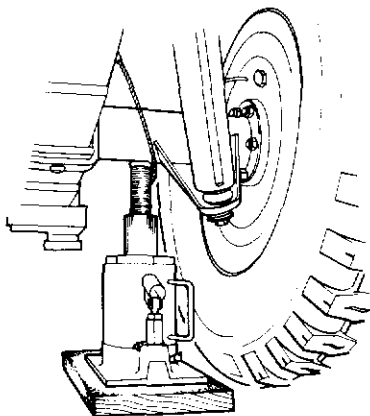

Figure 2-4 Jack position — rear wheels
- (2) Rear wheel. Position the jack so that when raised, it will contact the axle tube between the spring and the shock absorber bracket (see Fig. 2-4).